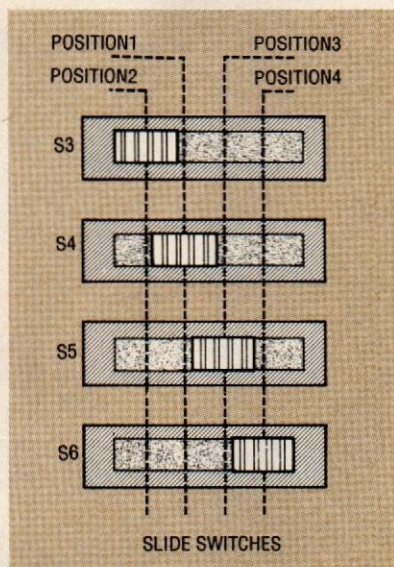

FIG. 9—FOUR POSSIBLE ACTUATOR SETTINGS of the two-pole, four-throw slide switches S3 to S6 that adapt the TVS250 to a specific phone.
5) *Caution:* Be sure that none of the actuators of the four switches S3 to S6 are in the same positions (see Fig. 9). If the jumper post shorting clips remain in place and two of the switches are in the same position, the unit will malfunction. Moreover, power indicator LED1 (green) might not light. The removal of the four shorting clips prevents this.
6) Move S1's actuator ON and green LED1 should light. Move S2's actuator back and forth and red LED2 should turn on and off. When red LED2 is illuminated, the scrambler is in the scrambled mode. Before continuing, be sure red LED2 is off (normal mode). When configured properly, the actuators of S3 to S6 will be in one of four possible positions as shown in Fig. 9. Remember that no two switch actuators should be set in the same position. Switches S3 and S6, which control the handset speaker connection, should be adjusted first. To find the proper switch settings for the handset speaker, listen for the phone's dial tone.